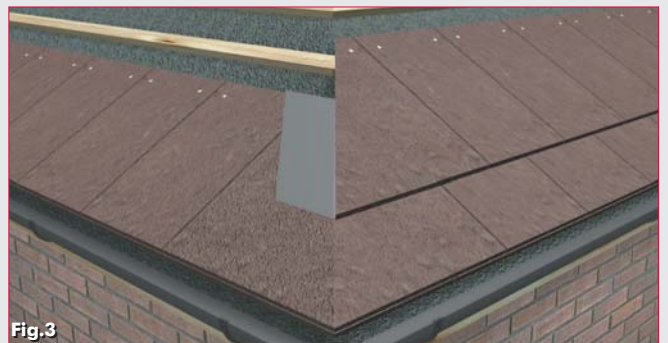

Fig.3
3. Slate and a half should be used for cutting so that enough width is provided to maintain a sufficient side lap. (Fig.3)